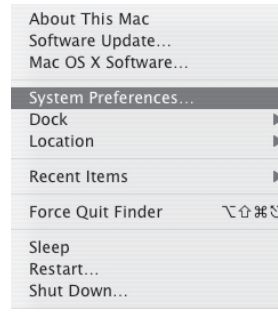

Figure 1
2.To select the C03U as the computers audio input, open the System Preferences from the dock or the main Apple Menu (figure 1).